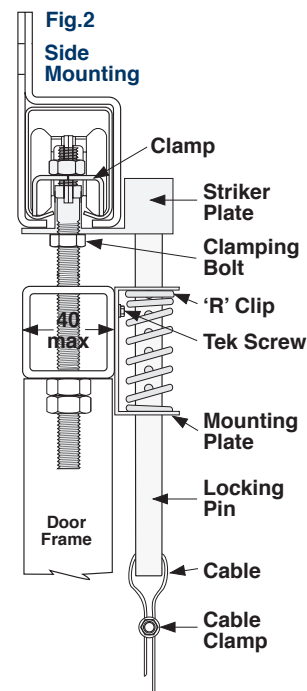

Fig.2
- Maximum door frame width for side mounting of Door Lock Kit should not exceed 40mm (Fig.2)